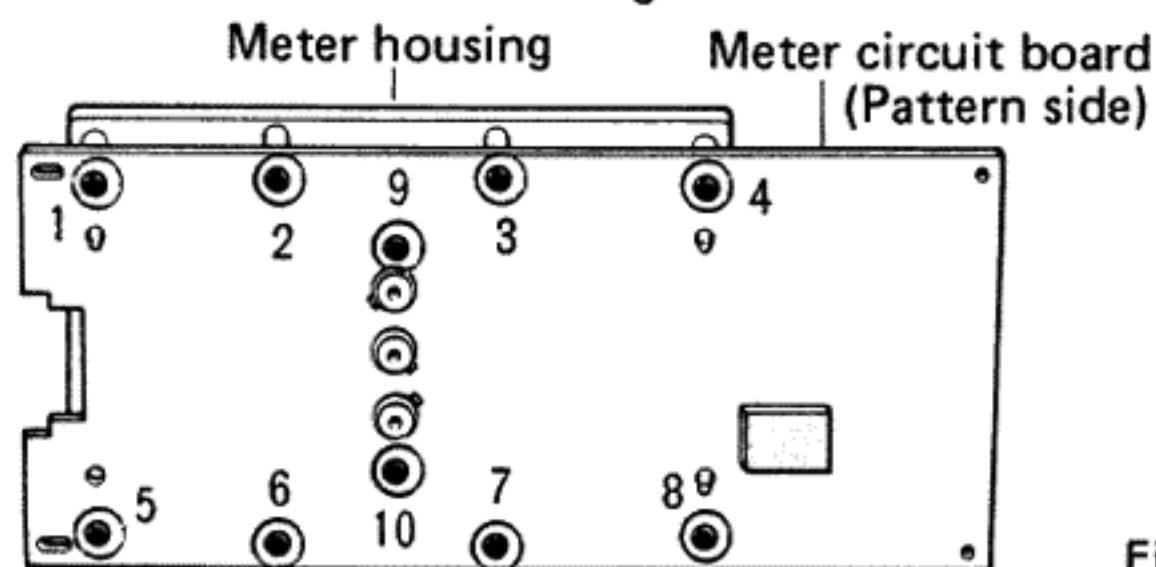

Fig. 5
- Remove plastic rivets ① through ⑧ in Fig. 5 from the back side of the meter circuit board and remove the meter housing.
- Remove plastic rivets ⑨ and ⑩ in Fig. 5 and remove the lamp reflector.